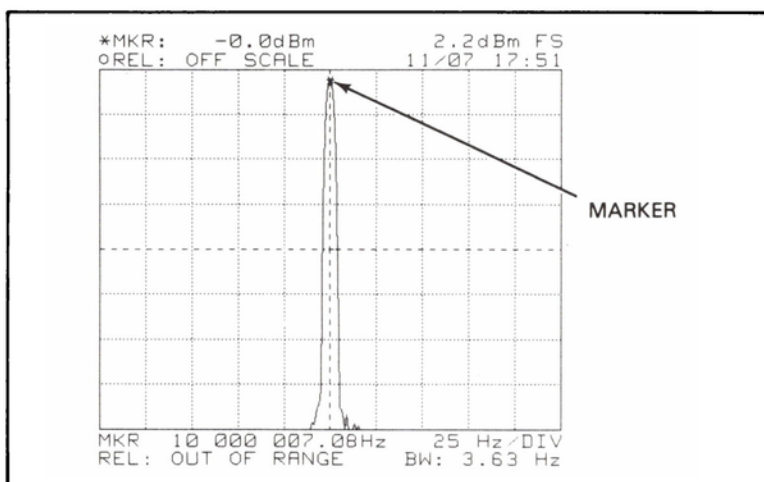

Figure 7-9. Image Rejection Test Adjustments
- f. Set the -hp- 3582A marker to the peak of the signal (See Figure 7-9).